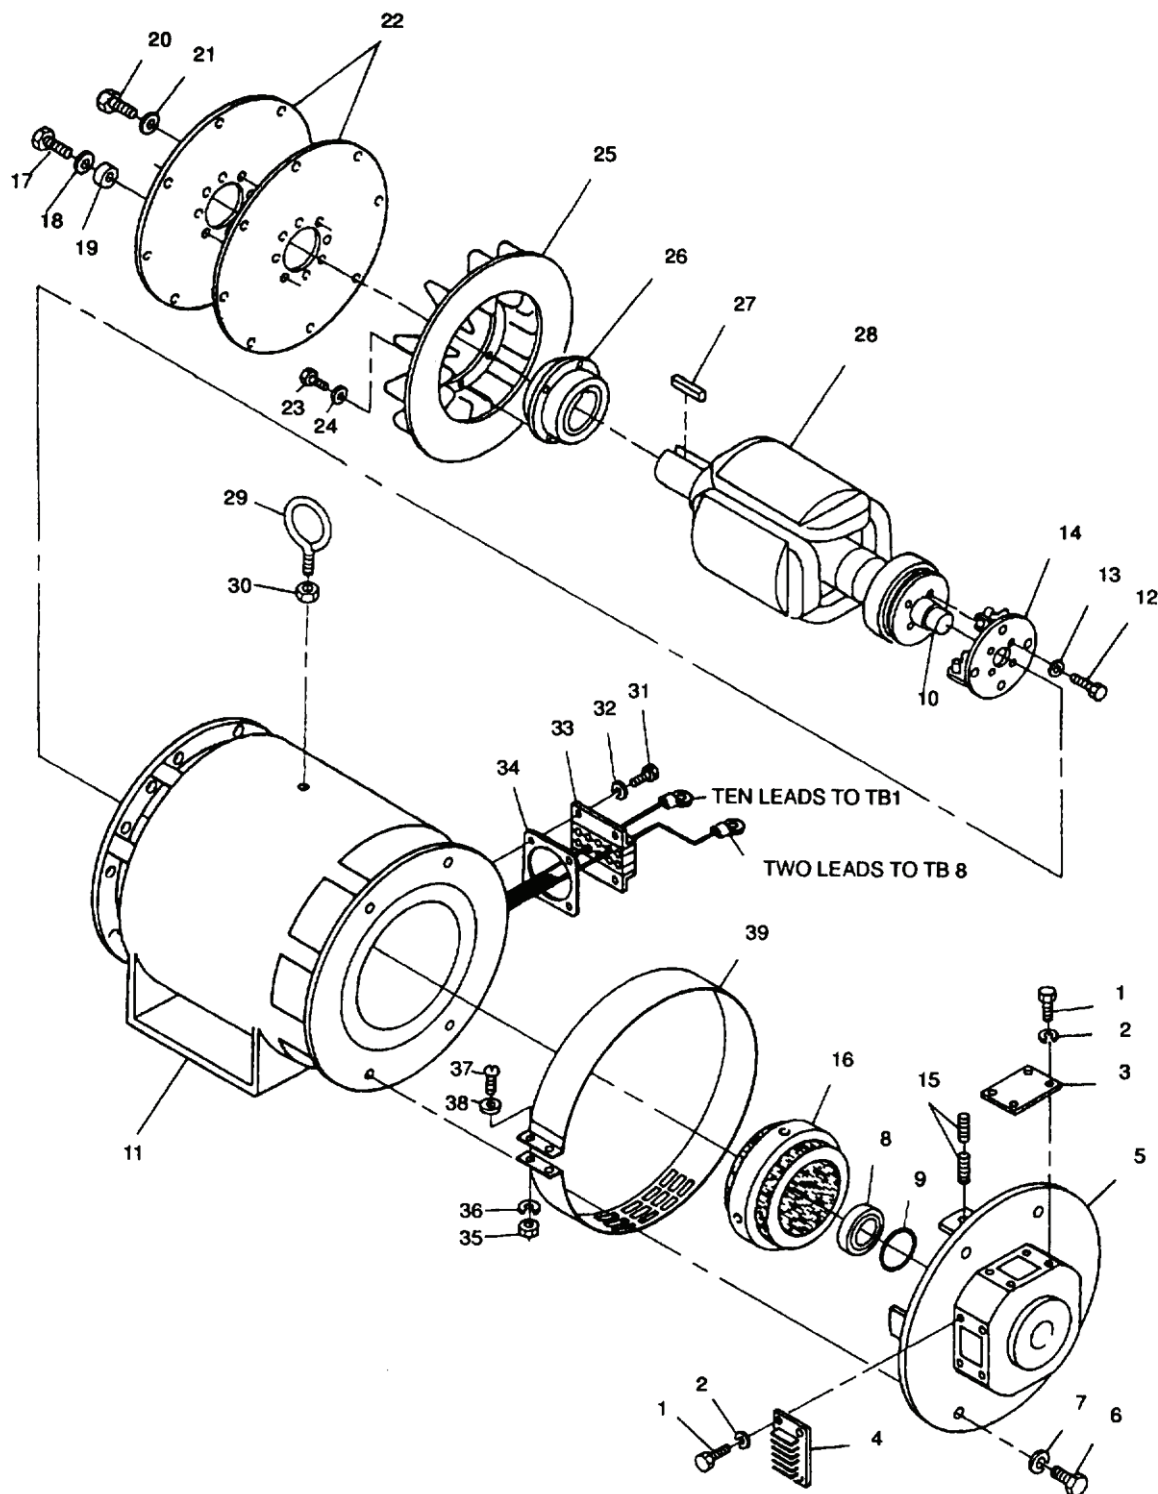

Figure 2. Generator Assembly.
4. Remove bolts (Figure 2, Item 1), lockwashers (2), top cover (3), and louvered covers (4) from end bell (5). Discard lockwashers (2).
7. Loosen lead clamp assembly (Figure 2, Item 33) clamping generator leads at side of generator housing. Ensure that wires F1 and F2 are free to slide in and out of generator housing.
8. Remove end bell (5), with exciter stator (16) attached, from generator housing (11) by tightening bolts (6) evenly into "back-out" holes.
9. Remove preformed packing (9) from end bell (5).
1. Install bearing (Figure 2, Item 8). Ensure that bearing is seated squarely against main rotor shaft (10) shoulder by applying pressure to inner race only.
WP 0121, Figure 2, Items: 12 & 14
6. Remove nuts (1) and lockwashers (2); tag and remove two main rotor leads and rotating rectifier diode leads. Discard lockwashers (2).
7. Remove bolts (WP 0121, Figure 2, Item 12), lockwashers (13), and rotating rectifier (14) from rotor assembly (28).
1. Install rotating rectifier (WP 0121, Figure 2, Item 14) on rotor assembly (28) with bolts (12) and new lockwashers (13).
WP 0121, Figure 2, Items 15 & 16